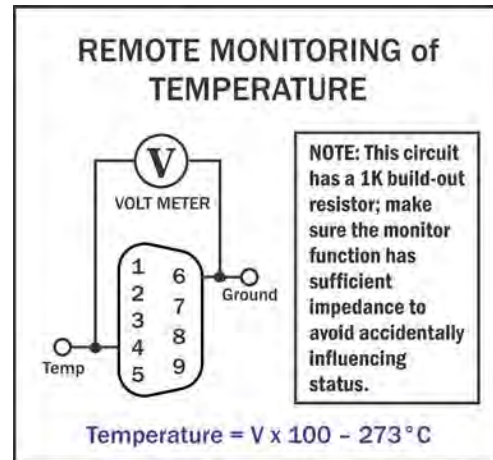

Figure 6.3 – Remote Temperature Monitor
**Method:** Connect a voltage meter to monitor the temperature at the heatsinks of the amplifier. Connect across Temp (PIN 4) and Ground (PIN 3 or 6). See **Figure 6.3**.